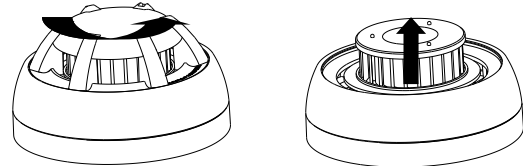

Figure 8 Removing the Sensing Chamber
- a) Open the top cover and pull the sensing chamber out.(Figure 8)